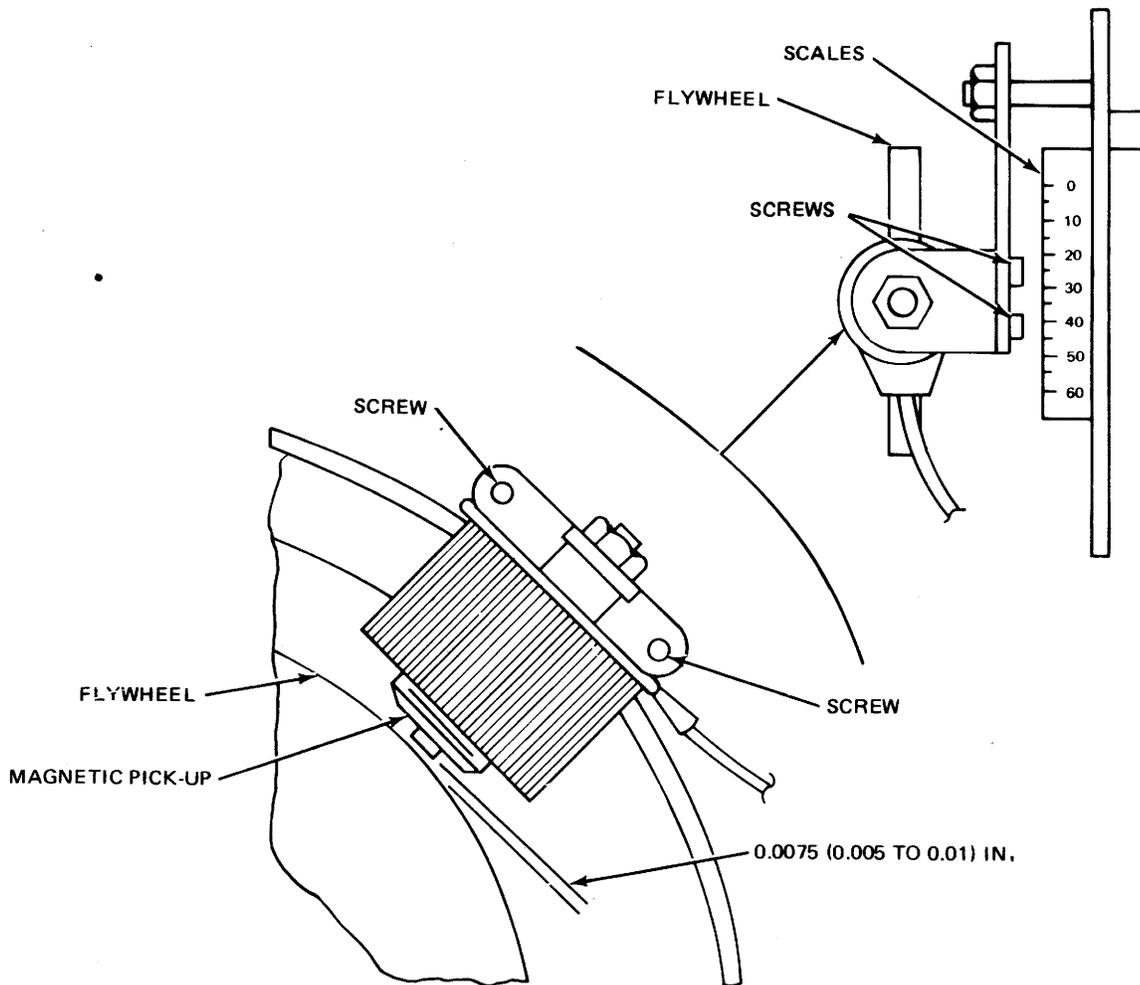

Figure 6-22. Magnetic Pickup Adjustment.
6-26. Punch Magnetic Pickup Adjustment. To adjust punch magnetic pickup, perform turnoff procedure (paragraph 6-24, step 2), see figure 6-22, and proceed as follows:
a. Loosen two screws that secure magnetic pickup to mounting plate (see figure 6-22).